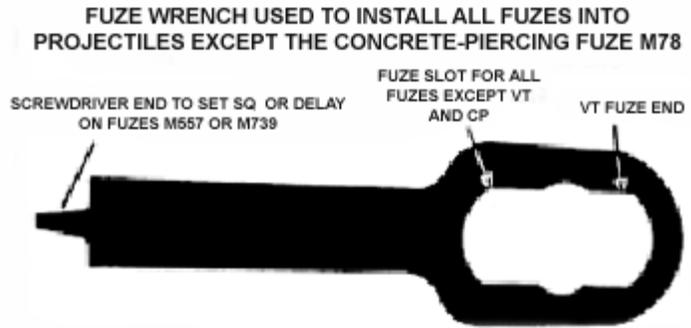

Figure 3-5. Fuze
Install the M564 fuze in projectile by removing the closing plug (or eyebolt lifting plug) from the projectile. Inspect the fuze well, then place the fuze in the fuze well, and tighten the fuze by hand. Next, place the M18 fuze wrench (Figure 3-5) on the fuze, and turn the wrench (M18) counterclockwise about one-quarter turn to loosen the fuze.
c. Fuze wrench M18. The M18 fuze wrench (Figure 3-5) is designed for tightening current models of point-detonating fuzes, including Impact, Mechanical time, and Variable time fuzes. The screwdriver end of the M18 fuze wrench is designed to adjust the sleeve of a selective impact fuze, such as the M557; but it also can be used to set the M577 and M582 MTSQ when an M35 setter is not available. The modified rectangular opening at the end farthest from the handle is stamped VT END ONLY, and should be used accordingly.